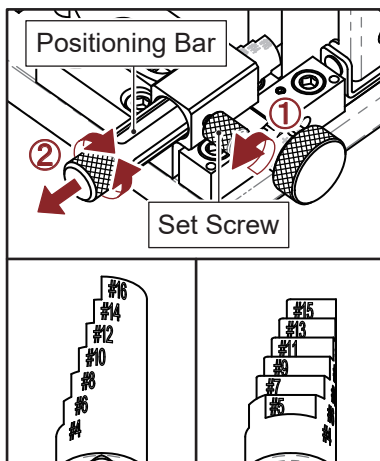
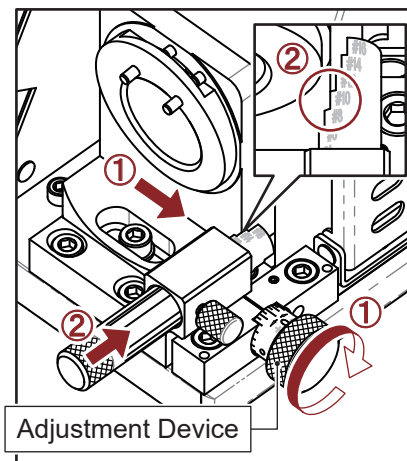
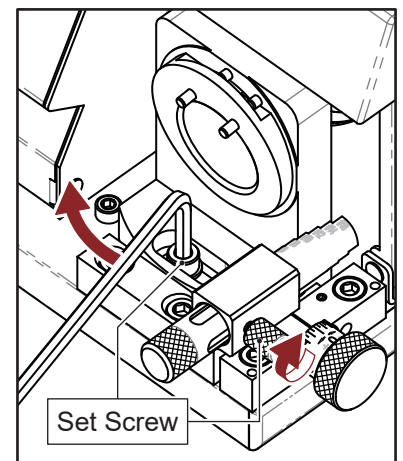

Fig. 6-2
Fig. 6-3
Fig. 6-4
4. According to end mill's cutting diameter, adjust the positioning bar with the diameter side facing upward. (Fig. 6-2)
- ① Loosen the set screw of the positioning bar.
- ② Pull out the positioning bar to the end to be able to rotate. Adjust the positioning bar and push it in, so that the set screw slides into the groove of the positioning bar.
5. Adjust the grinding shelf to proper position. (Fig. 6-3)
- ① Turn the adjustment device clockwise to move the shelf to the right.
- ② At the same time, push the positioning bar until the right side of the shelf touches the left slot of positioning bar with the diameter.
6. Tighten the set screw to lock the grinding shelf and positioning bar. (Fig. 6-4)